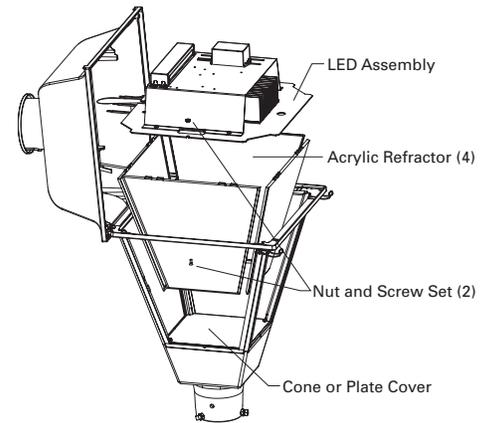

FIG. 4
2. Remove two nuts and screw on LED assembly (FIG. 4) and lift LED assembly to side.